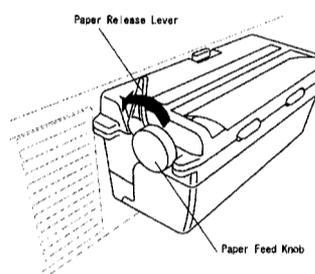

Figure 6. Paper release lever and paper feed knob
- Paper Release Lever -The lever to hold the print paper down (refer to Figure 6).
- Paper Feed Knob -The knob for paper feeding (refer to Figure 6).
3. If you are removing paper from the printer before installing new paper, push the paper release lever until it clicks in the released (open) position and remove the old paper roll. Refer to Figure 6.
- If you are removing paper from the printer before installing new paper, push the paper release lever until it clicks in the released (open) position and remove the old paper roll. Refer to Figure 6. Keep the release lever in the released (opened) position.
- The print paper does not slant relative to the paper feed direction. If the paper is slanted, raise the paper release lever to its released (open) position, align the paper, and then close the paper release lever. Refer to Figure 6.